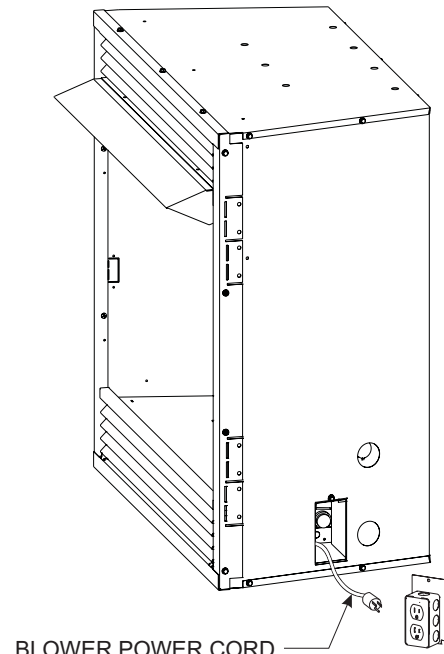

Figure 17
11. To complete the installation, plug the power cord into the junction box receptacle at the right rear corner of the firebox outer wrap. **See Figure 17.**